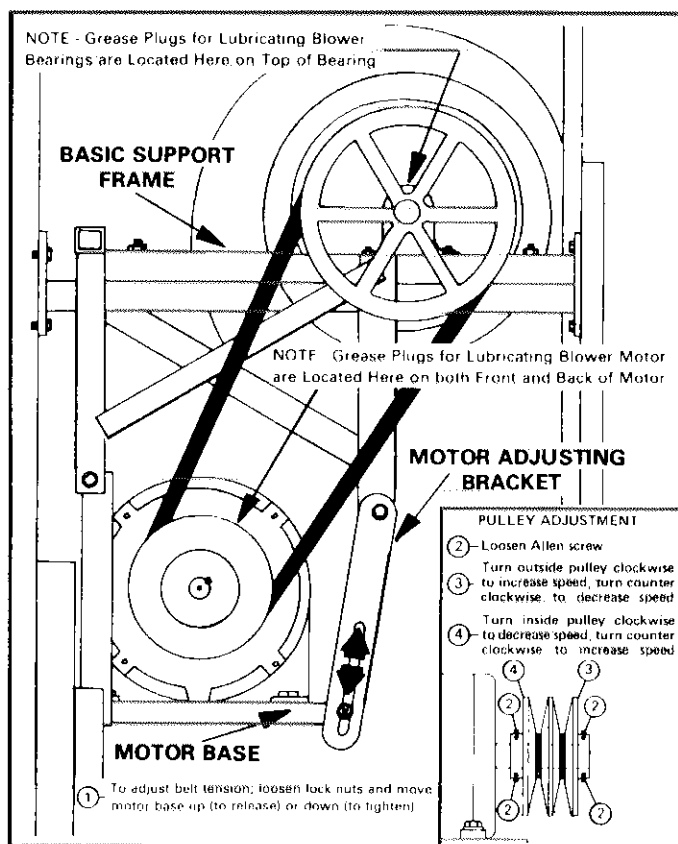

FIGURE 16
The drive kit options are listed in Table 4. To change speed, refer to Figure 16. Loosen nut on motor base frame, slide motor up and remove belt. Loosen motor pulley with Allen wrench and adjust pulley according to detail in Figure 16. Be sure Allen screw is lined up with flat side of sheave before retightening.
- 1 - *Evaporator Blower Bearings* - Bearings are prelubricated. For extended bearing life, relubricate at least once every two years with a lithium base grease, such as Alvania 3 (Shell Oil), Chevron BRB2 (Standard Oil) or Regal AFB2 (Texas Oil). Use a **hand grease gun** for relubrication. Add only enough grease to purge through the bearings so that a bead of grease appears at the seal lip contacts. Refer to Figure 16.
- 2 - *Evaporator Blower Motor Bearings* - Bearings are prelubricated. For extended bearing life, relubricate at least once every two years with a lithium base grease, such as Westinghouse 53701RW, Chevron BRB2 (Standard Oil) or Andok 260 (Exxon Oil). To relubricate, replace top plugs with standard grease fittings. Remove lower outlet plugs and add grease with a **hand gun** until new grease appears at bottom outlets. Run motor for a short time before replacing bottom plugs. Refer to Figure 16.